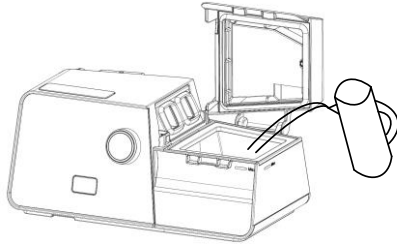

Fig. 12-4
(2) Open the cap, and fill the water chamber with approximately 360 mL of water, as shown in Fig. 12-4. Make sure that the water does not exceed the maximum water level line.